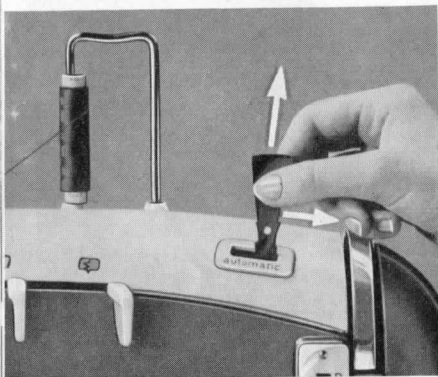

fig. 95
7. This is done by moving the stitch-width lever (21) as far as it will go to the right, i. e. to 4½.
8. Now press the holder (Fig. 95) of the bar gently to the right (in the direction shown by the arrow) and remove the bar upwards.